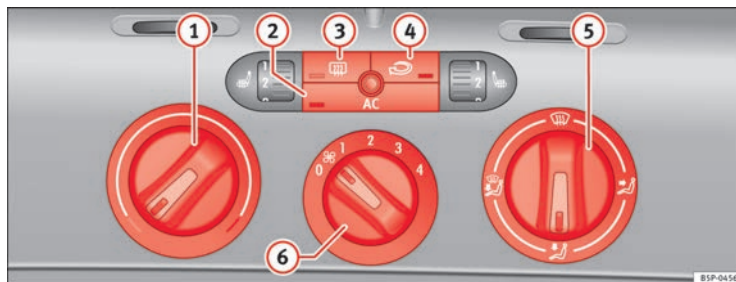

Fig. 128 On the dash panel: Climatic controls
- Turn the temperature selector → fig. 128 ① clockwise to select the required temperature.